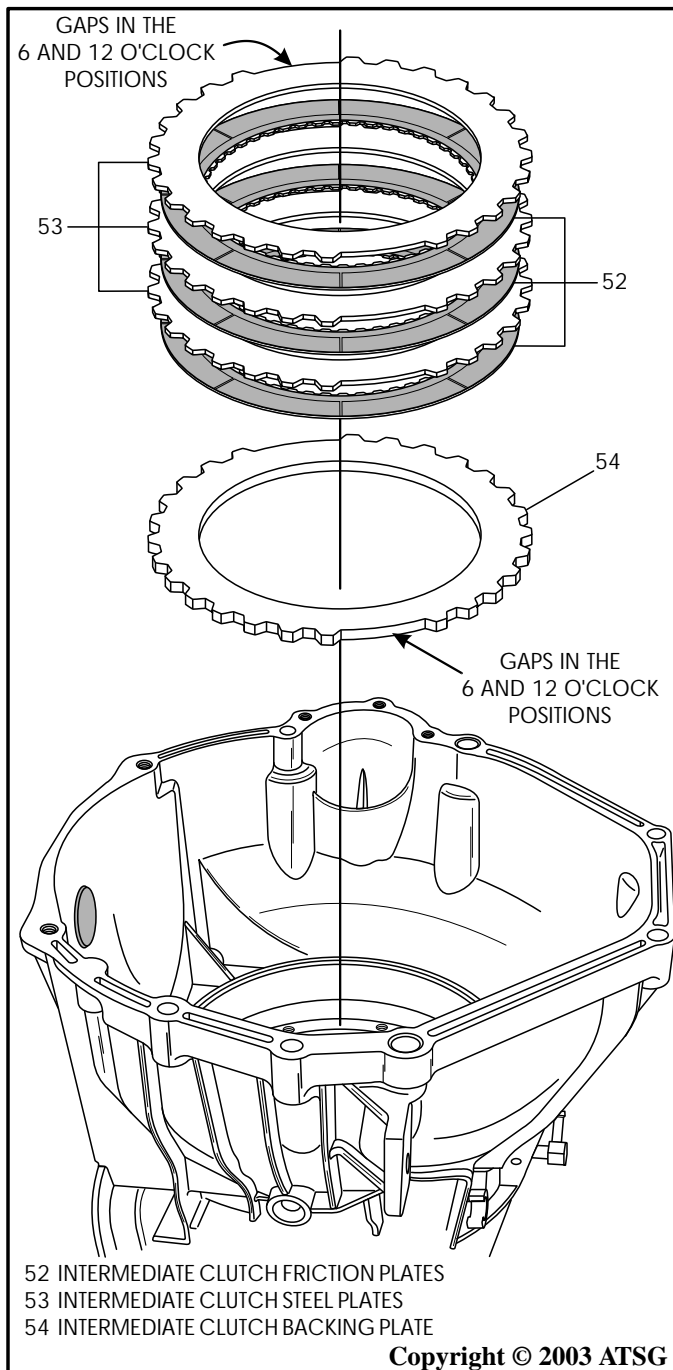

Figure 176
7. Install the intermediate clutch backing plate, as shown in Figure 176, with the gaps in the steel plates at the 6 and 12 o'clock positions in case.
8. Install the intermediate clutch plates, as shown in Figure 176, beginning with a friction plate and alternating with steel plates until you have the proper amount installed.